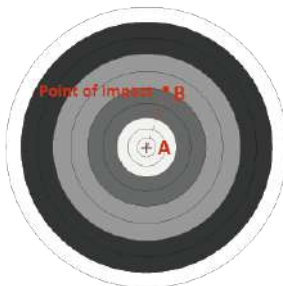

Fig. 10
(4) **Shoot:** Fire a shot at the center of the target (A) and ensure that the point of impact(B) is clearly visible on the screen as shown in Fig. 10.